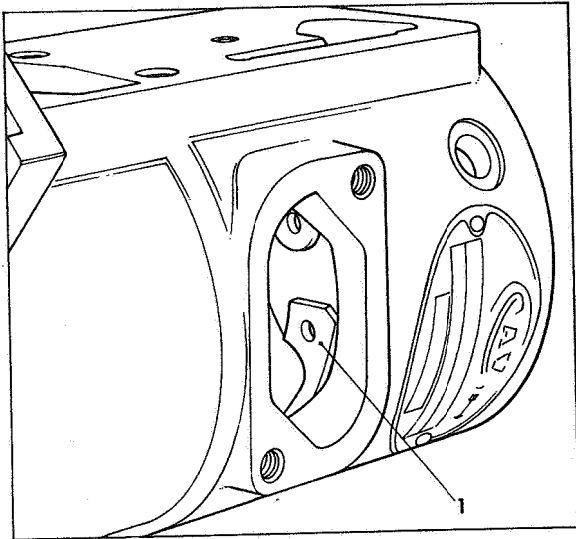

Fig 50 Positioning circlip
Insert circlip (1) Fig 50 against shoulder in pump housing bore, positioning the square ear of the circlip centrally in the housing inspection aperture as shown. Insert cam ring against circlip with arrow facing the open end of the pump and in the same direction as the arrow on pump name plate.